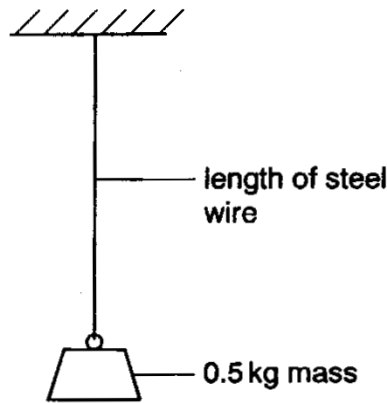

Fig. 9
Fig. 9 shows a 0.5 kg mass hanging freely on a length of steel wire.
- (a)** On Fig. 9 use labelled arrows to indicate the direction and line of action of each of the two forces acting on the 0.5 kg mass.